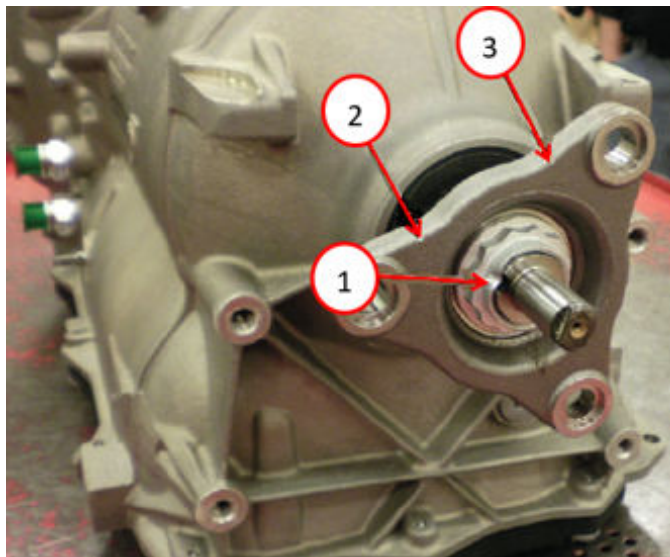

Fig. 6
6. Remove the output shaft flange locknut staking Fig. 6.